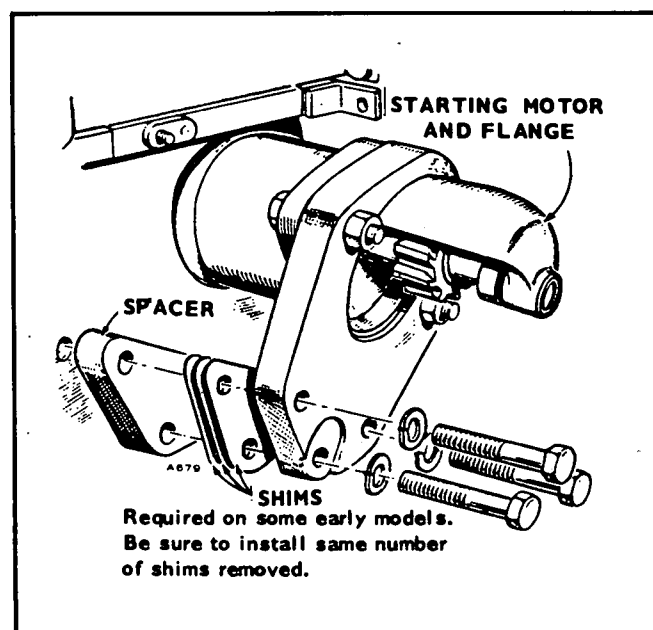

FIGURE 31. STARTING MOTOR SHIMS
11. If it is necessary to remove the starting motor flange (Figure 31), watch for shims between the flange and crankcase surface. Save any shims, they must be reinstalled to position the starter correctly.
IMPORTANT: On units built prior to serial No. 679677, it was necessary to maintain the gap between ring gear and starter pinion in the relaxed position at less than 1/8-inch to insure starter engagement. When installing these motors, check this gap. If it is too great, a shim kit is available to reduce it. See Figure 31.